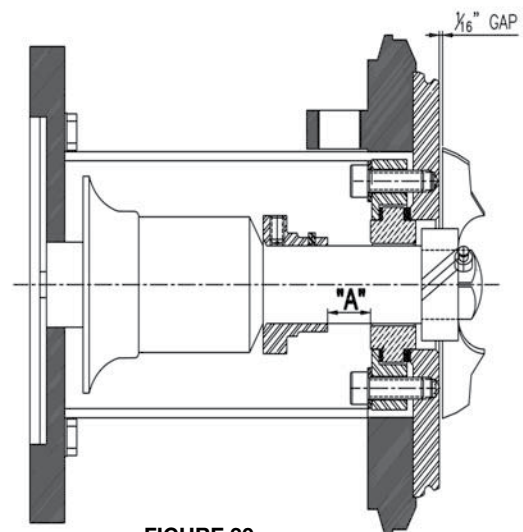

FIGURE 30
6. Set the drive collar to "A" dimension in the seal chart and tighten the drive collar setscrew. (Figure 30)